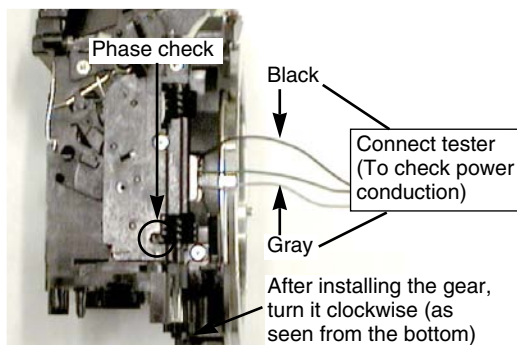
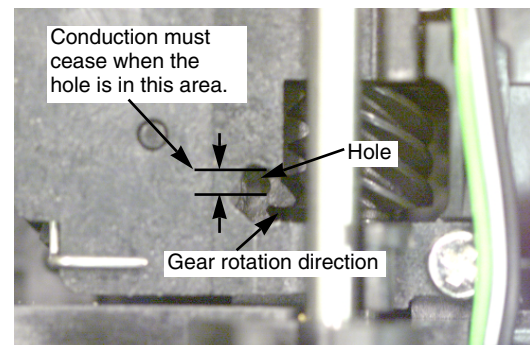

Fig. 3-32 Gear phase check
Fig. 3-33 Gear phase check 2
- The mirror cam gear and the charge gear must be installed in proper arrangement. For your reference, when you set as shown in Fig. 3-32 before disassembling gears, check the position of the hole on the charge gear when conduction ceases. (Fig. 3-33).
- 5) Rotate the worm gear shaft, and check the position of the charge gear hole when conduction ceases. (Fig. 3-32 and 3-33)